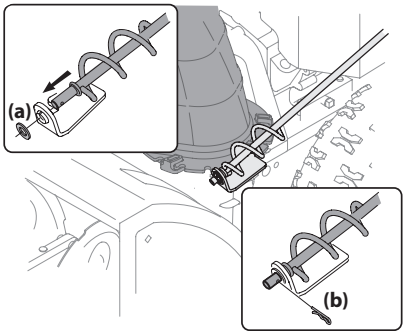

Figure 2-15
- 1. Remove plastic cap (if present), flat washer (a) and hairpin clip (b) from end of chute directional control assembly. See Figure 2-15.